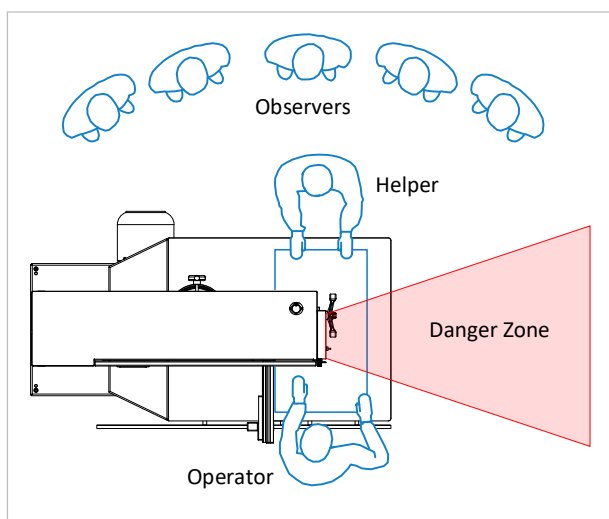

Figure 3: Danger zone around the machine
- ⚠ **Behaviour in the event of a saw blade breakage:** Switch the machine off (or optionally press the emergency stop) and wait until all band saw wheels have come to a complete standstill before taking any further action. Only the lower wheel is braked! In the danger zone next to the machine (see ⇒ Figure 3), there is a danger to life if the saw blade breaks!